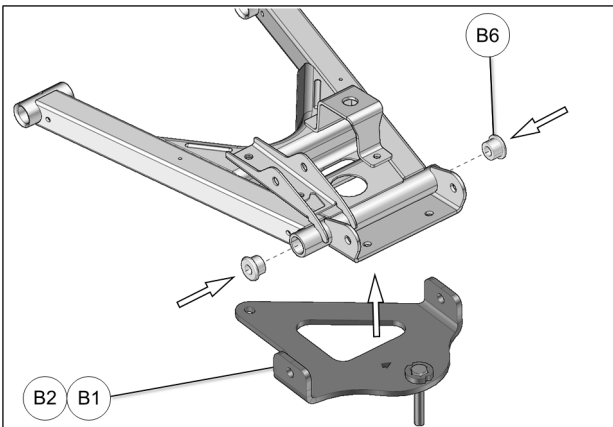

Fig. 6
5. Insert taper flange bushings (**B6**) in the ends of tube in lower suspension arm. Position anchor bracket (**B1-B2**) under suspension arm. Align side bracket holes with the taper bushings just inserted in the suspension arm. See Fig. 6